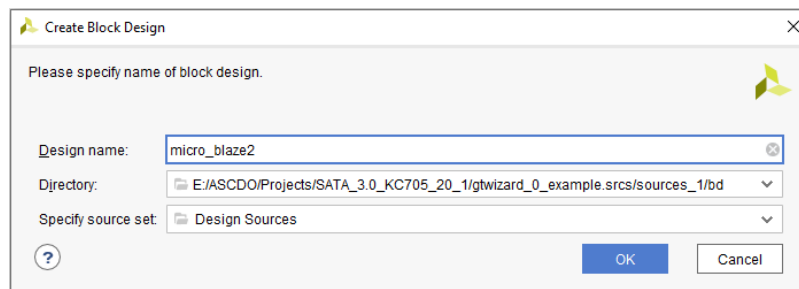

Figure 4: SATA 3.0 Host Controller Block Design Configuration step 1
- Then give block design name (micro_blaze2) and directory as E:\ASCDO\Projects\SATA_3.0_KC705_20_1\gtwizard_0_example.srcs\sources_1\bd\micro_blaze2/ micro_blaze2.bd in the below Figure 4.